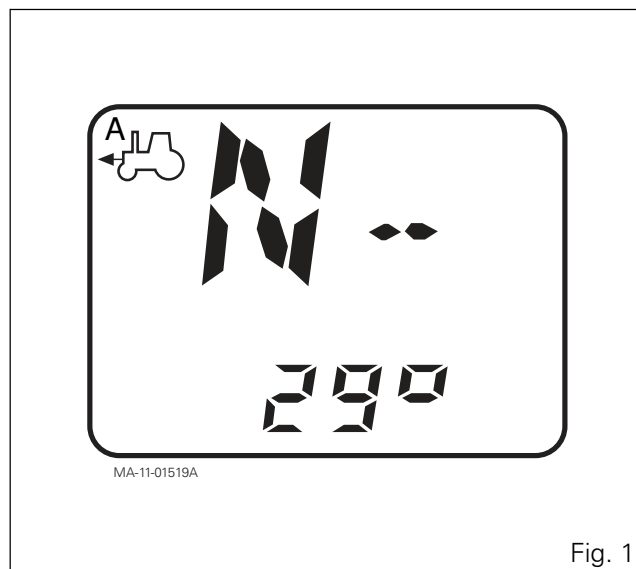

Fig. 1
- The reading is displayed on the DCC2 (Fig. 1)